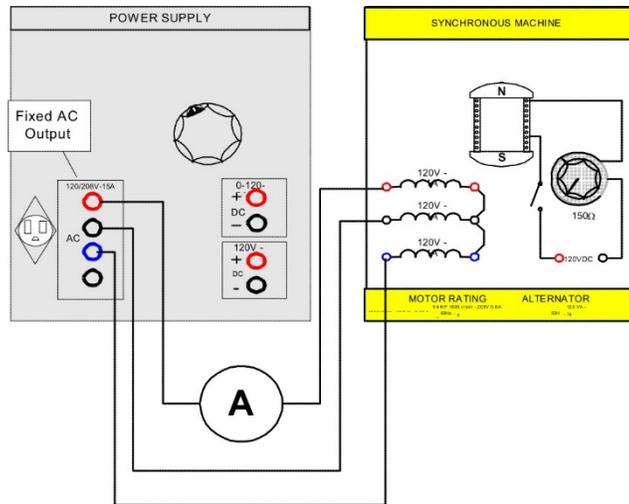

FIGURE 9.3
Step 4: Using your EMS Synchronous Machine, Power Supply and Data Acquisition Interface (DAI) modules in the EMS workstation, connect the circuit shown in Figure 9.3. Note that the three-stator windings are wye connected to the fixed 208V 3 ϕ output of the power supply, terminals 1, 2 and 3.